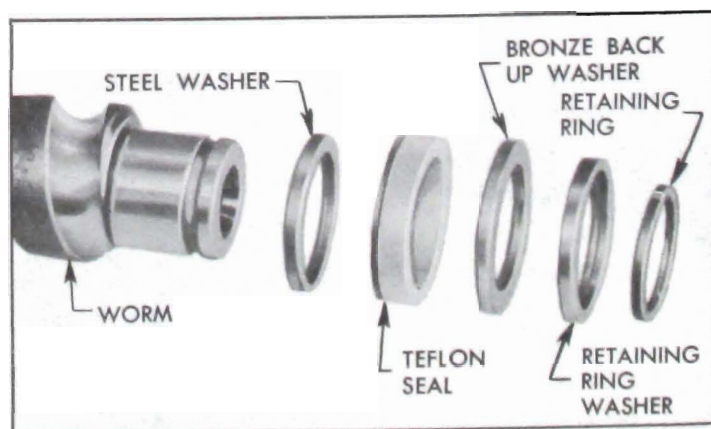

Figure 8-33—Worm Seal Assembly
7. Install steel washer, Teflon seal with rubber toward worm, bronze back-up washer, retaining ring washer, and seal retaining ring on end of worm. Then lubricate the Teflon seal with dynaflow oil. See Figure 8-33.